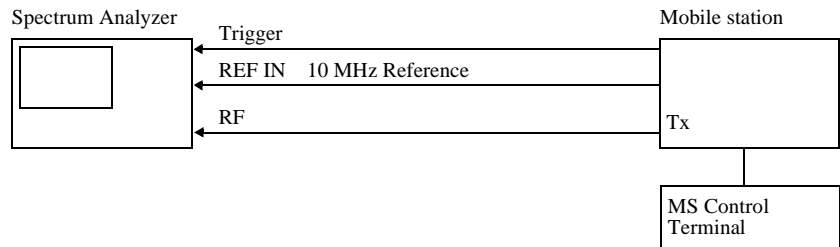

Figure 2-13 Setup for the measurement of the 3GPP signal
1. Connect the unit under test as shown in Figure 2-13.